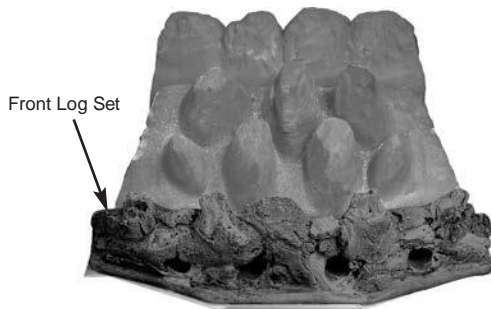

Fig. 39
3. Position the front log set on the front ceramic retainer, making sure that the back edge is pushed up against the front of the burner strip (Fig. 39).